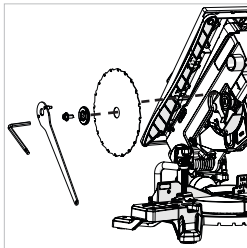

Fig. 7
- Remove the blade by withdrawing it outwards to clear the end of the arbor and then downwards and forwards away from the machine. (Fig.7)